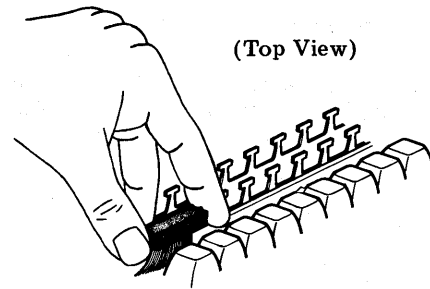

Fig. 17—Cable Connector Removal
- (g) Exert upward force until cable connector releases (Fig. 17).